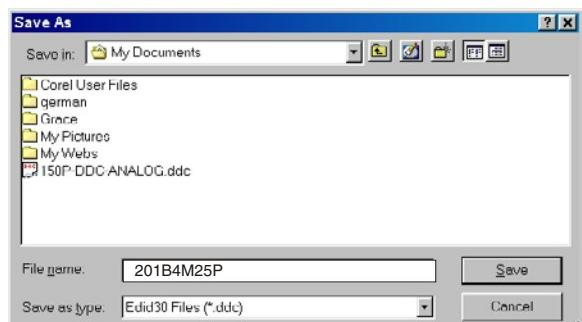

Fig. 19
- Click (Save) icon (or click "file"->"save as") from the tool bar and give a file name as shown in Fig. 19. The file type is EDID301 file (*.ddc) which can be open in WordPad. By using WordPad, the texts of DDC data & table (128 bytes, hex code) can be modified. If DDC TEXTS & HEX Table are completely correct, it can be saved as .ddc file to re-load it into EEPROM for DDC Data application.